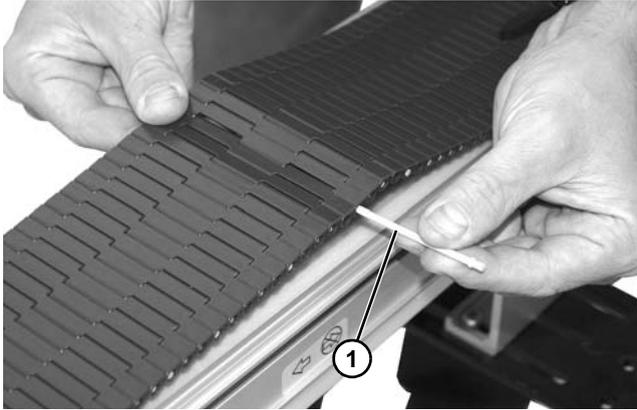

Figure 36
5. Splice the belt together by pushing the plastic rod (Figure 36, item 1) through the side hole on the rod retaining side of belt.